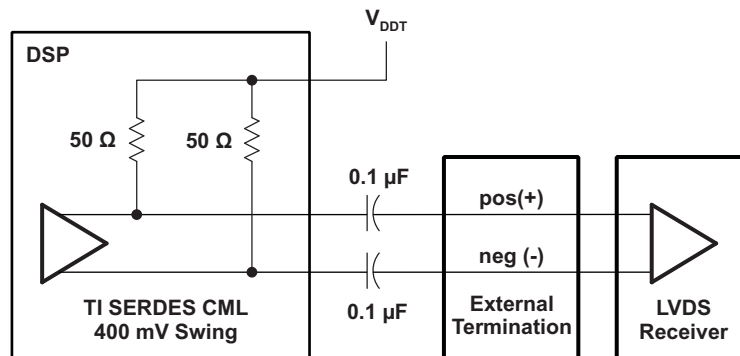

Figure 27. CML to LVDS Connection Basic Diagram
- The basic connection diagram is shown in Figure 27.